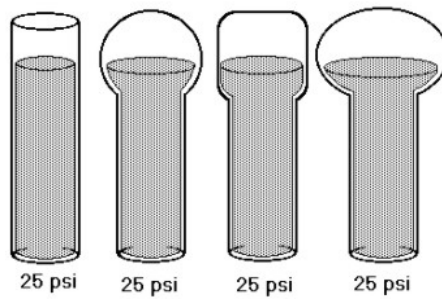

Figure 4 - 6th Principle of Pressure
- The sixth principle of pressure -the pressure of a liquid on the bottom of a vessel is independent of the shape of the vessel **[See Figure 4]**